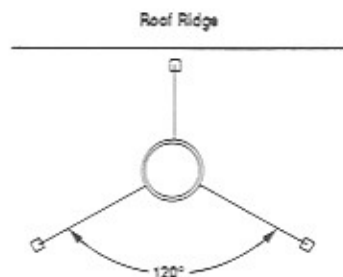

Figure 31
Note: If chimney extends more than 8' (2.4m) above roof surface, guy wires are also recommended. Use three (3) guy wires, attach to locking band assembly, extend and secure to roof in a triangular pattern (Figure 31). Guy wires are not supplied by Superior.